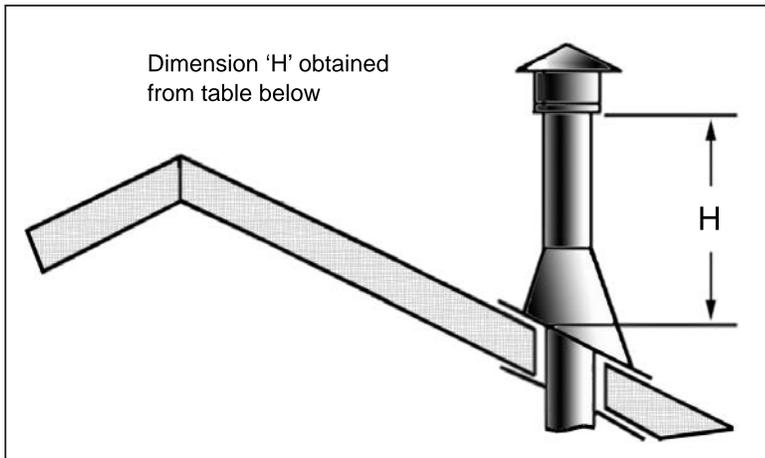

Figure 60: Height of Vertical Termination;
- Step 4.** Measure roof pitch. Select the proper flashing and storm collar and determine the height above the roof (see Figure 60). A non-corrosive pipe material must be used for all exterior pipe lengths. Seal nail heads with silicone.